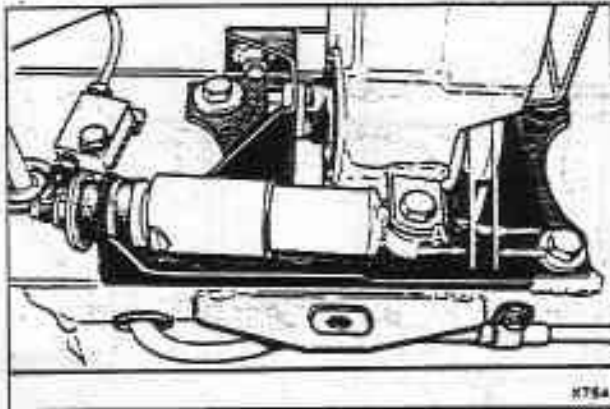

Fig. H8-3 Rear crossmember mount and damper
3. Check the rear crossmember setting (see fig. H8-3) as described in Section H8 under Rear crossmember mounts - To renew.
16. Fit the long mounting bolt with the washers positioned as shown in figure H8-3.